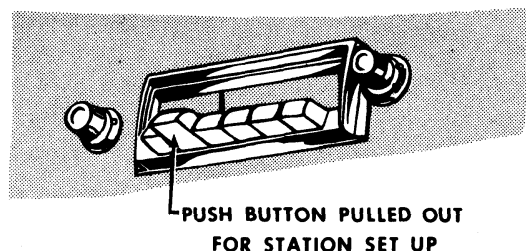

Fig. 11—Push-Button Adjustment (Model 835)
- (1) Push search tuning bar. After pointer stops, tune in desired station with manual tuning knob.
- (2) Pull off push-button cover.
- (3) Turn off the radio.
- (4) Push in push-button.
- (5) Turn radio ON.
- (6) Rotate knurled knob of push-button until desired station is received. (No sound will be heard until station is tuned in). (Do not force knob beyond limit of rotation).
- (7) Replace push-button cover and set up other push-buttons in same manner.
9. STATION PUSH-BUTTON ADJUSTMENT (Model 835) (See Fig. 11)